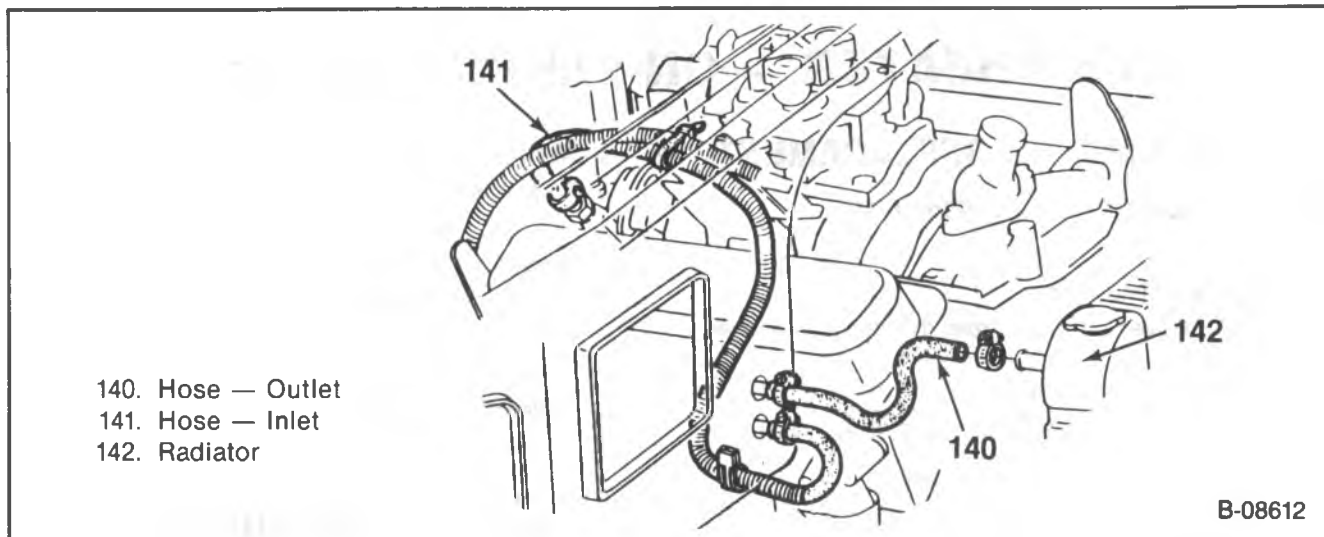

Figure 19 — Heater Hose Routing — 4.3L, 5.0L, and 5.7L (TBI) Engines
Heater hoses are routed from the thermostat housing or inlet manifold and water pump (radiator on some automatic transmission vehicles) to the core inlet and outlet pipes. Hoses are attached at each end with screw-type clamps. (Refer to figures 19, 20, 21 and 22.)
3. Heater core hoses (140 and 141) (figures 19, 20, 21 and 22).